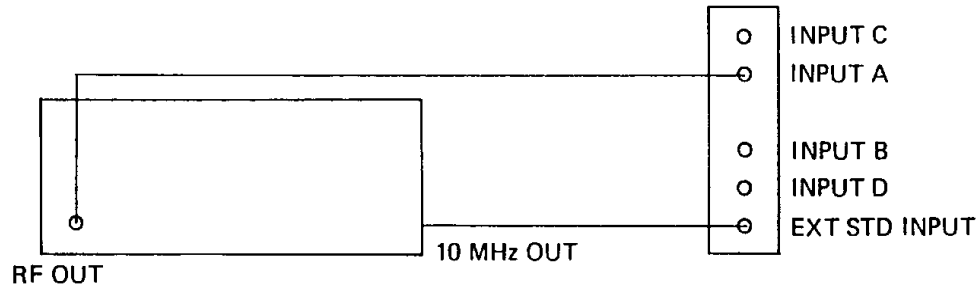

Figure 4-16, Input A Amplifier Setup Configuration
4.5.2.3 Connect the counter to the signal generator as shown in **Figure 4-16**.